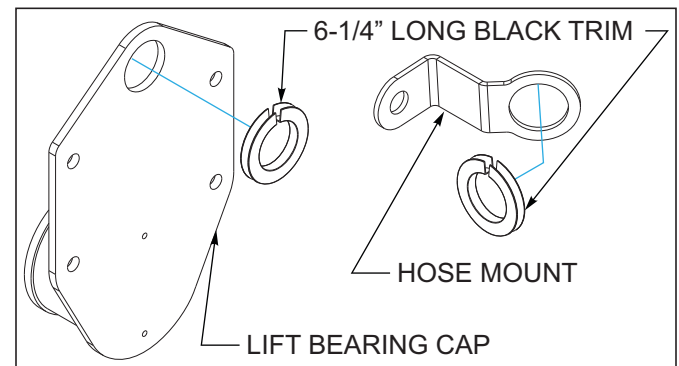

Figure 3-8: Trim Installation
6. Install a 6-1/4" long piece of black trim in the top hole of the lift bearing caps. Outer wing bearing caps do not require trim. Install a 6-1/4" long piece of black trim in the hole of the hose mounts See Figure 3-8. Route lift hydraulic hoses through bearing caps between frame sections See Figure 3-8.